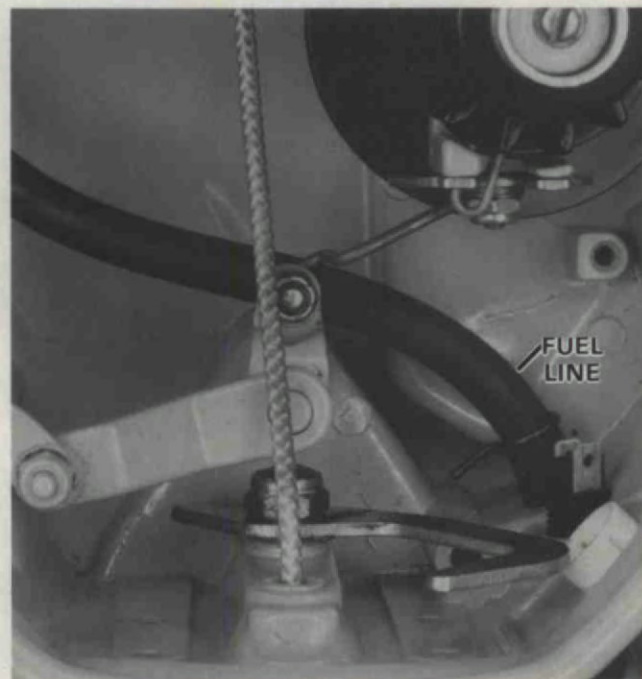

Figure 7. Disconnecting Fuel Line.
5. Disconnect fuel line from bushing as follows: Figure 7.